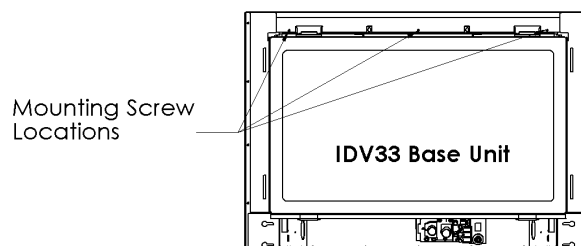

Fig. 1A - Base unit.
5. For I33CV/I43CV models only: Reattach the Top Filler (Fig. 1A) with three [3] screws before installing the I33CV/I43CV Fronts.